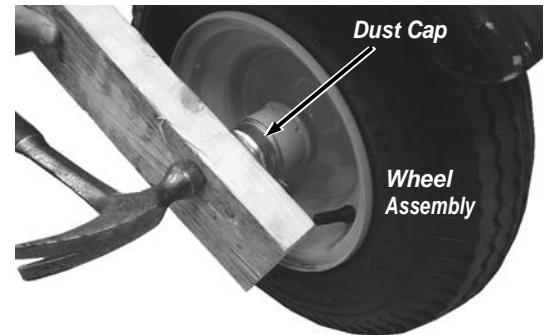

Figure 62
9. Place the Dust Cap onto the Wheel Assembly and secure it by placing a piece of wood over it and pounding lightly with a hammer until it is against the lip (**Figure 62**).